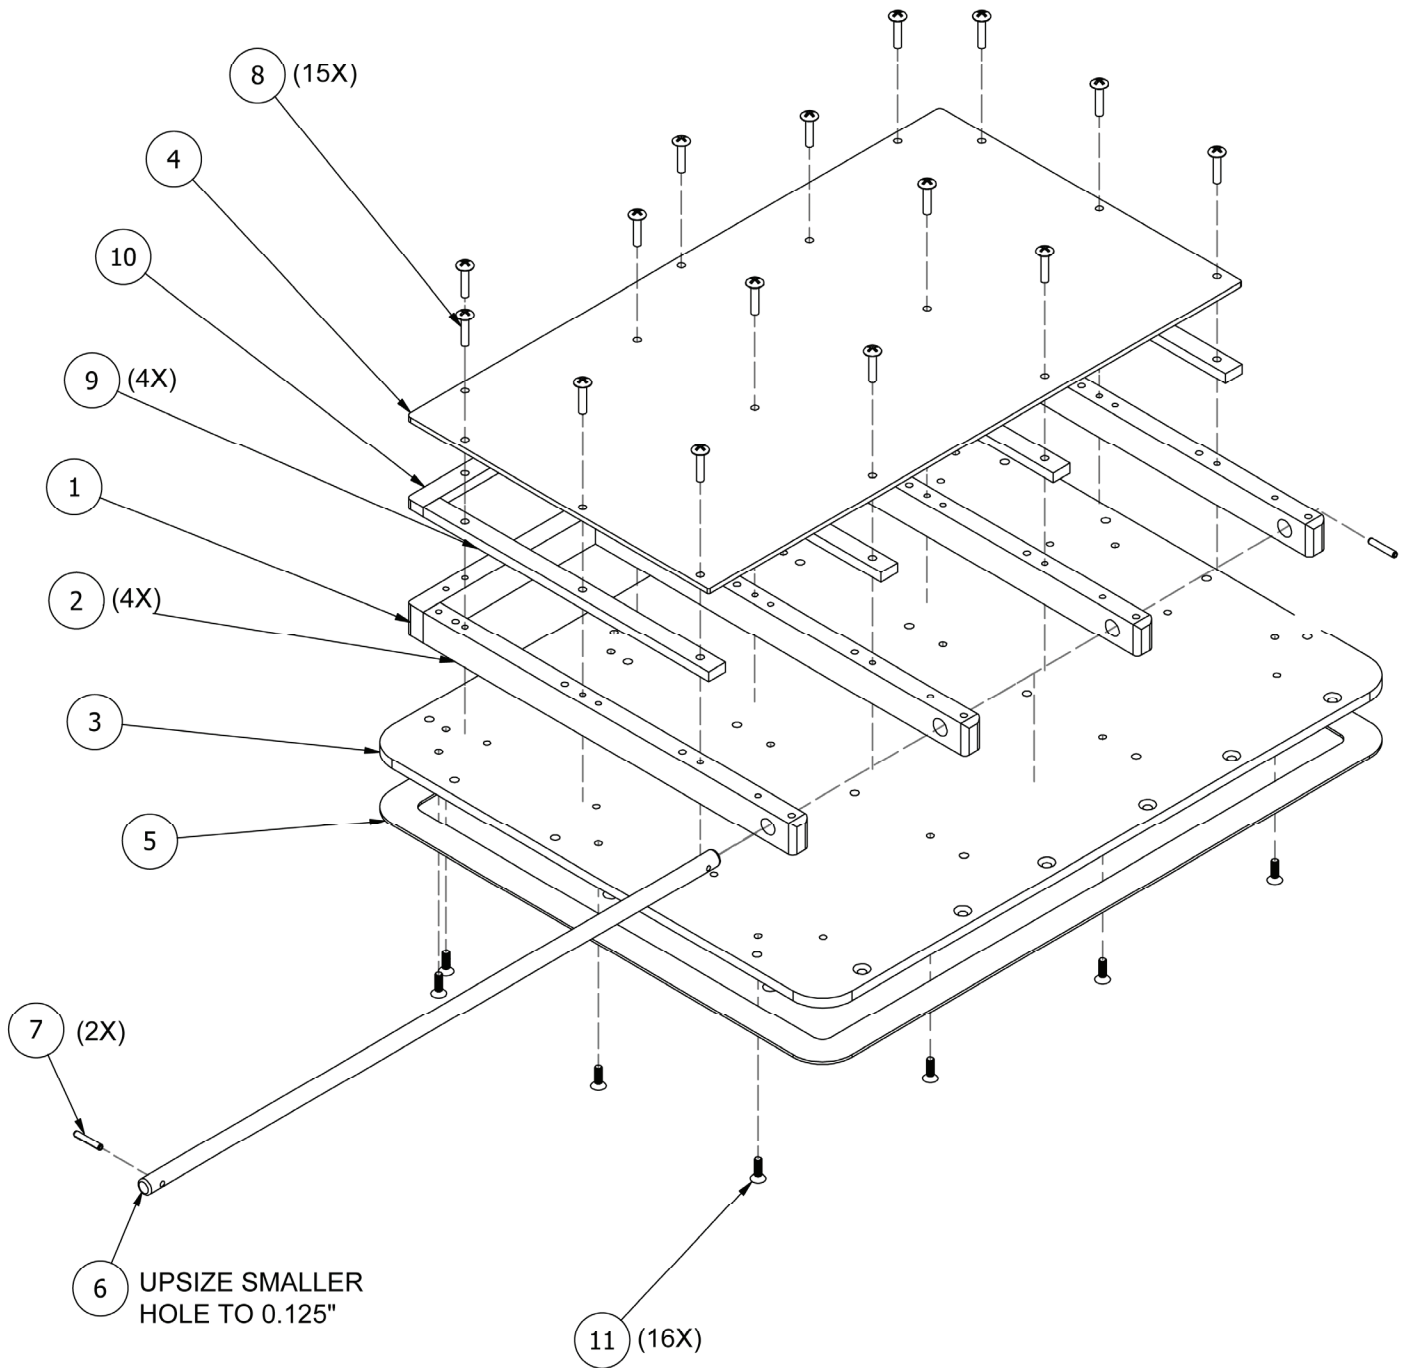

Figure 1 – Assemble Ballast Holder(s)
1. Assemble ballast holder(s) as shown in Figure 1. Retaining rod and spring pins (Table 1, Items 6 and 7) may be omitted if 13 lb plates (1012696) are not used, otherwise wait to configure weights in step 2 before installing second spring pin. Apply high strength threadlocker (red Loctite, or equivalent) to all fasteners.